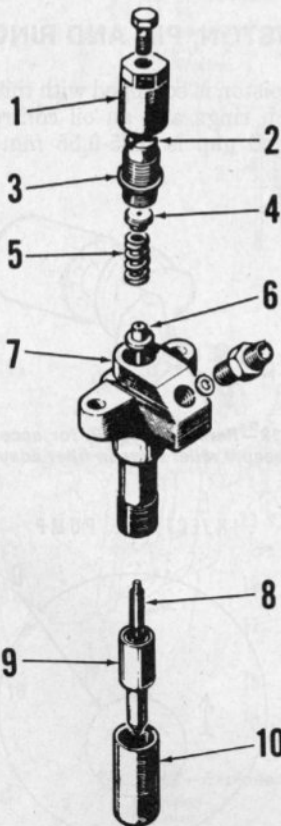

Fig. L3-12—Exploded view of injector.
Opening pressure with a new spring (5—Fig. L3-12) should be 21.6-22.5 MPa while opening pressure with a used spring should be 20.6-21.6 MPa. Opening pressure is adjusted by turning adjusting screw (2). Valve should not show leakage at orifice spray holes for 10 seconds at 17.6 MPa.
OVERHAUL. Clamp nozzle body (7—Fig. L3-12) in a vise with nozzle tip pointing upward. Unscrew nozzle holder nut (10), then remove nozzle (9) and valve (8). Invert nozzle body (7) and remove adjusting screw (2), spring seat (4), spring (5) and push rod (6). Thoroughly clean all parts in a suitable solvent. Clean inside orifice end of nozzle with a wooden cleaning stick. The orifice spray holes may be cleaned by inserting a 0.20 mm cleaning wire. When reassembling injector, make certain all components are clean and wet with clean diesel fuel oil. Tighten nozzle holder nut (10) to 49 N·m.